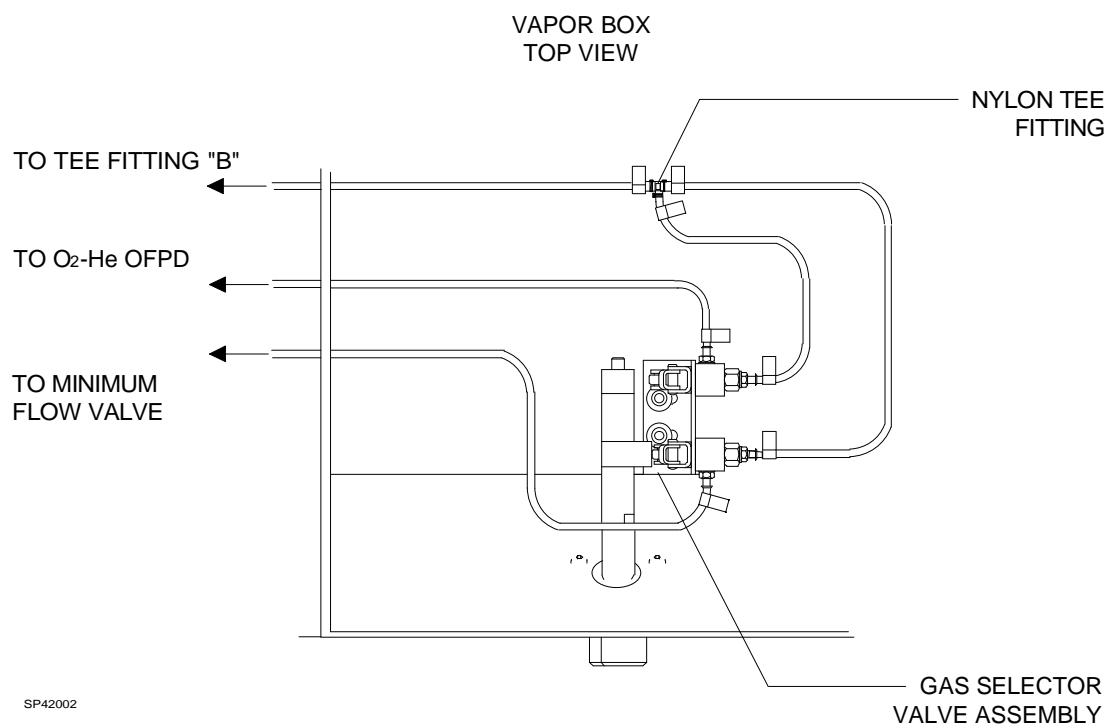

Figure 11: GAS SELECT VALVE AND CONNECTIONS
51. Mount the gas selector valve assembly to the floor of the vapor box, oriented as shown in Figure 11, with two 10-32 x 5/16 in. socket head screws, lock washers and flat washers.
53. Connect a 10½ in. length of flex tubing to the side port of the front valve on the gas selector, and secure it with a press-on clamp. Connect the other end of the tubing to a nylon tee fitting and secure it with a tie strap. Install a O₂ label on each end of this tube as shown in Figure 11.
59. Connect a 24 in. length of flex tubing from the rear port on the gas selector assembly to the hose barb on the top of the O₂-He OFPD in the flowmeter housing. See Figures 11, 12 and 13. Secure both ends with a press-on clamp. Install a O₂ label on each end of this tube.